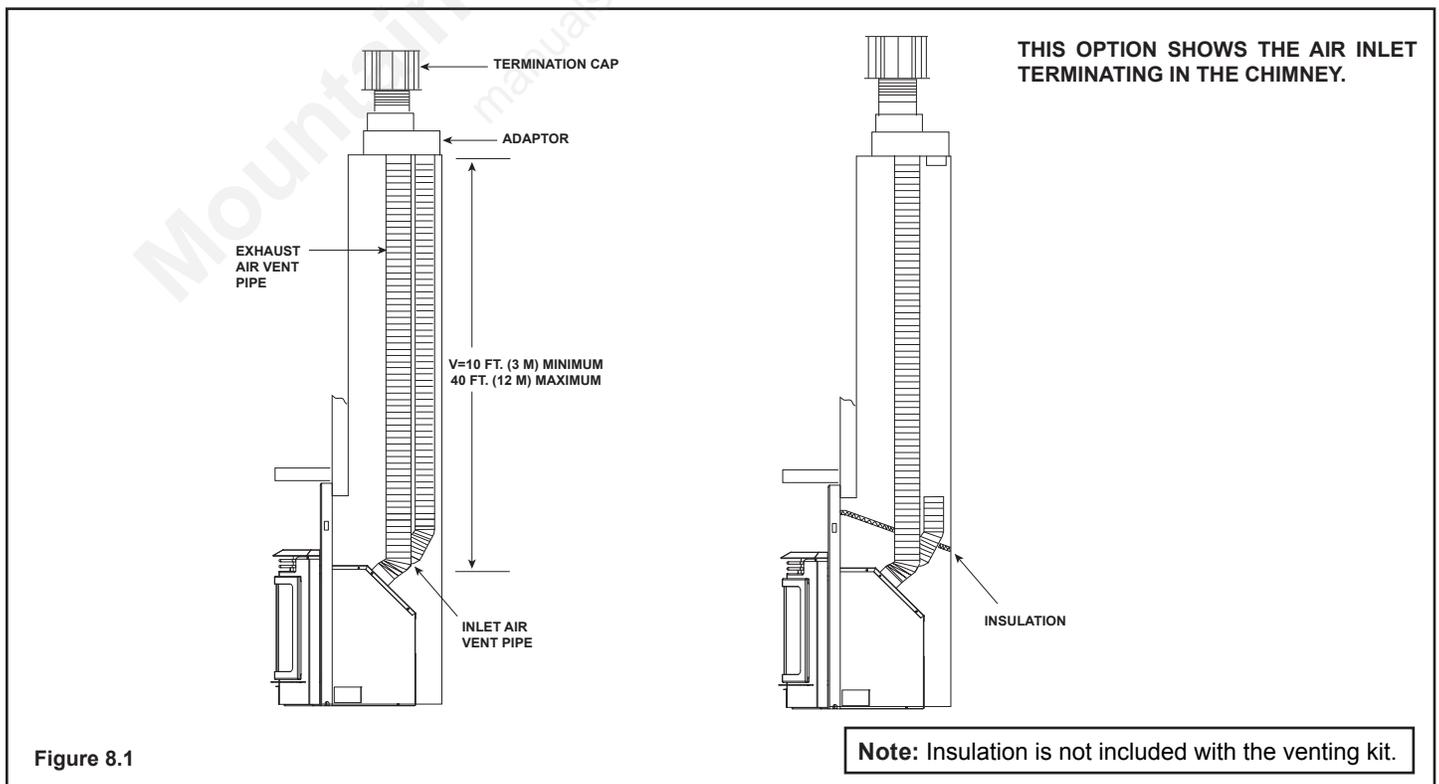

Figure 8.1
- Secure the exhaust flexible vent pipe to the exhaust collar on the transition assembly. See Figure 8.1.
- Use 3 screws to attach either a 4 foot or 30 foot section of inlet air vent to the inlet collar on the collar slide plate (see Figure 8.1). NOTE: The collar slide plate may be removed from appliance to aid installation.